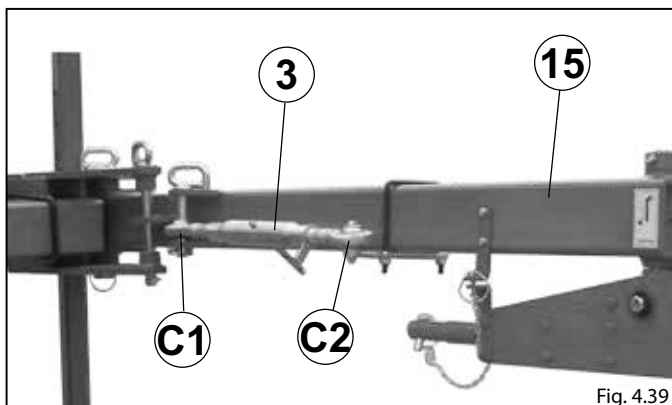

Fig. 4.39
- Close the towbar **15** blocking it with the tie rod **3** in position **C1 - C2** (Fig.4.39).